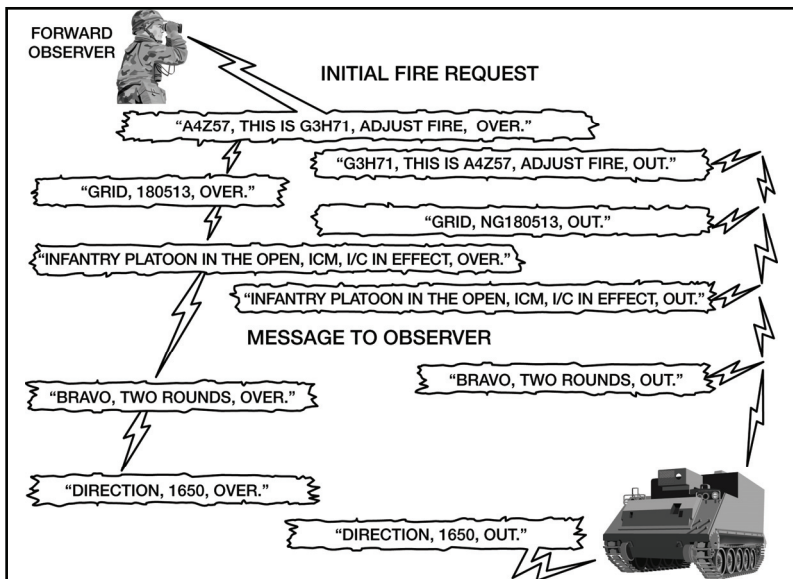

Figure 061-283-6003-1. Initial fire request
(6) Method of fire control. The request for a fire mission would be similar to figure 061-283-6003-1.